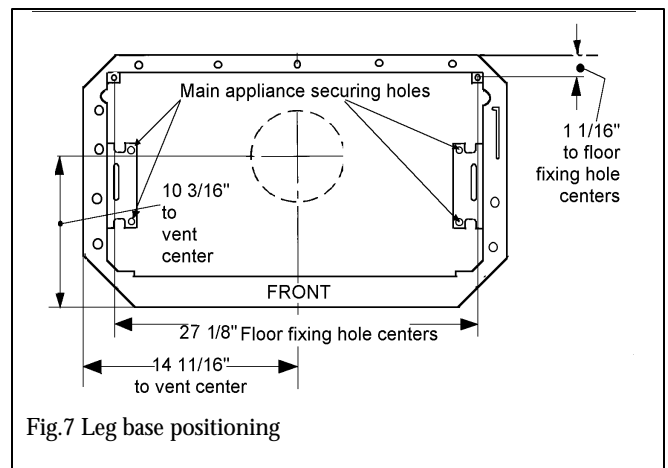

Fig. 7 Leg base positioning
- 8.2.3** Place the base in position (see figure 7). The rear of the base must be at least 2" away from the rear wall to allow air flow to the installed appliance.
- 8.2.8** Place the main appliance unit over the base, align the securing holes (see figure 7). Secure with 4 machine screws.